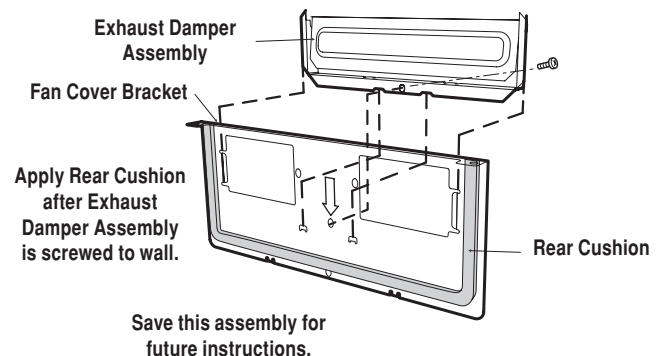

Figure 10B
5. Assemble the Exhaust Damper Assembly to the fan cover bracket by sliding into the slits in the same directions as the arrow. Use 1 Tapping Screw 4 x 12 mm from the INSTALLATION HARDWARE and tighten into place. See Figure 10B.